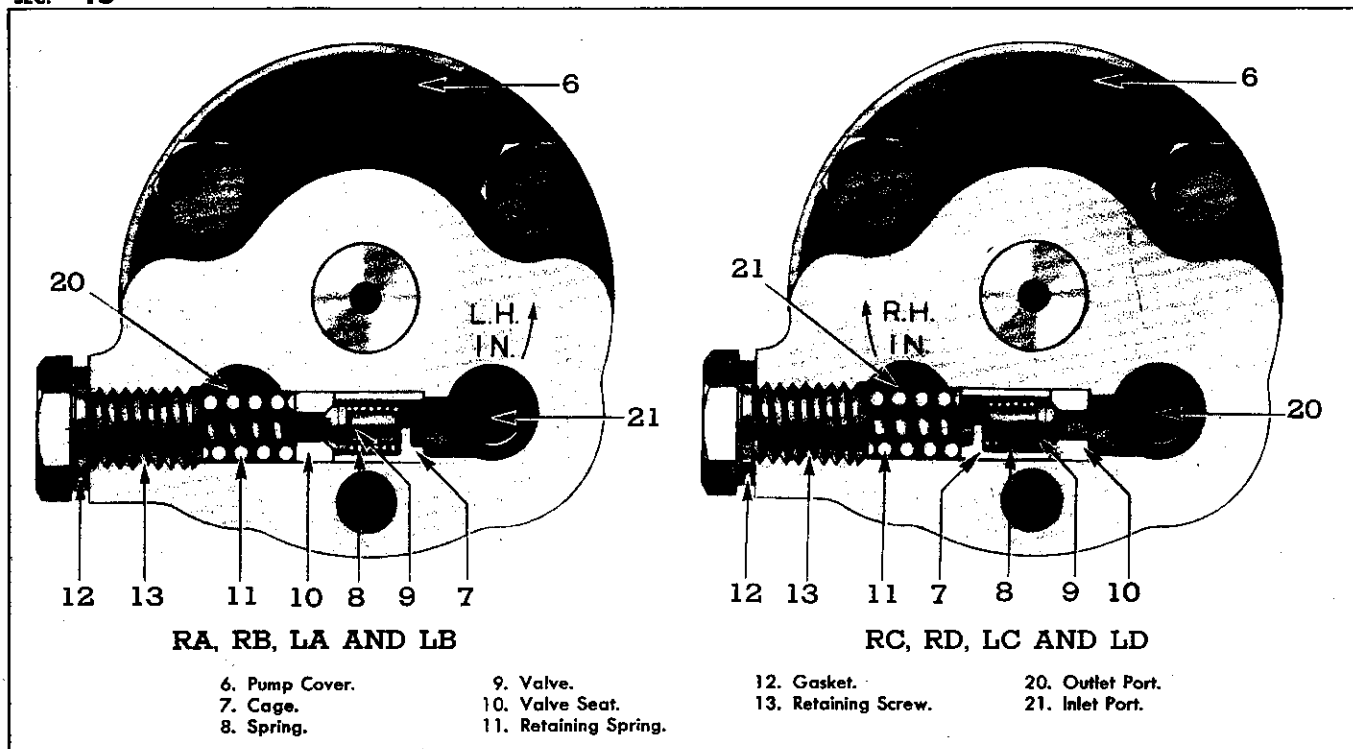

Fig. 34—Position of Relief Valve in Pump Cover for Engine Models Indicated.
The pumps are the same for all engines except for the manner in which the relief valve, cage and seat are assembled. (See Fig. 34.) Pumps for the RA and LA engines are therefore identified by the marking "LH IN," while pumps for the RC and LC engines are identified by the marking "RH IN," signifying the rotation of the pump vanes. These markings appear at the inlet opening of the pump cover. When the pump is installed on the blower, the *inlet opening must always be next to the cylinder block.*
9. Refer to Fig. 34 and replace the relief valve parts, including cage, spring, valve, seat, and retainer spring, being sure that the valve points toward the retainer screw on pumps for RA and LA engines and away from the retainer screw for RC and LC engines.
1. Select the correct pump for either the RA and LA or the RC and LC engines as illustrated in Fig. 34 and with the inlet marked—"LH IN" or "RH IN" on the pump cover—closest to the cylinder block, put the pump drive coupling fork (arms out) on the square outer end of the pump rotor shaft and a new paper gasket on the pump flange.